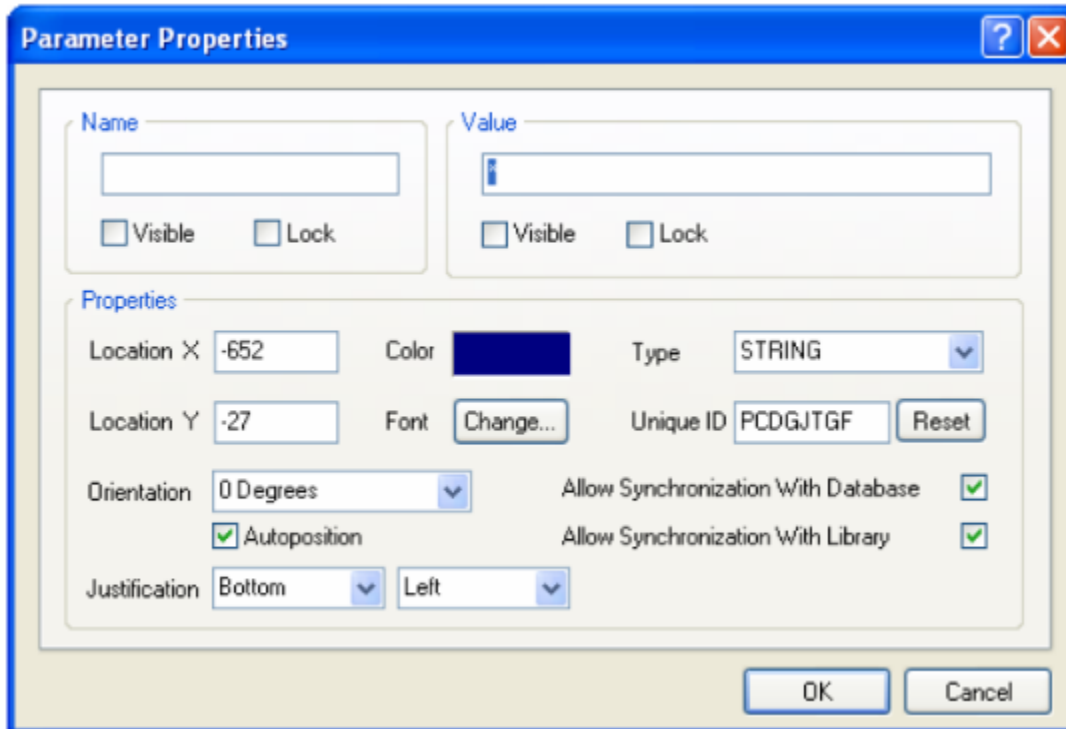

Figure 24. Parameters are configured in the Parameter Properties dialog.
2. To add a new parameter, click the **Add** button in the **Parameters for ...** section of the *Library Component Properties* dialog to display the *Parameter Properties* dialog (Figure 24).